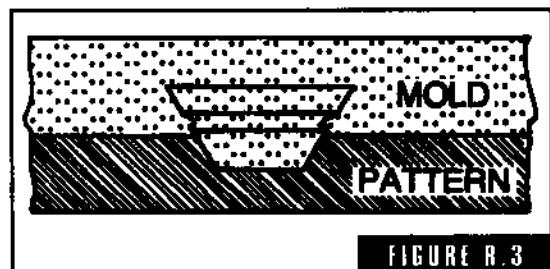

FIGURE R.3
**ram-up core** A core set against the pattern or in a locator slot in the pattern (Fig. R-3). The mold is rammed and when the pattern is drawn the core remains in the mold.